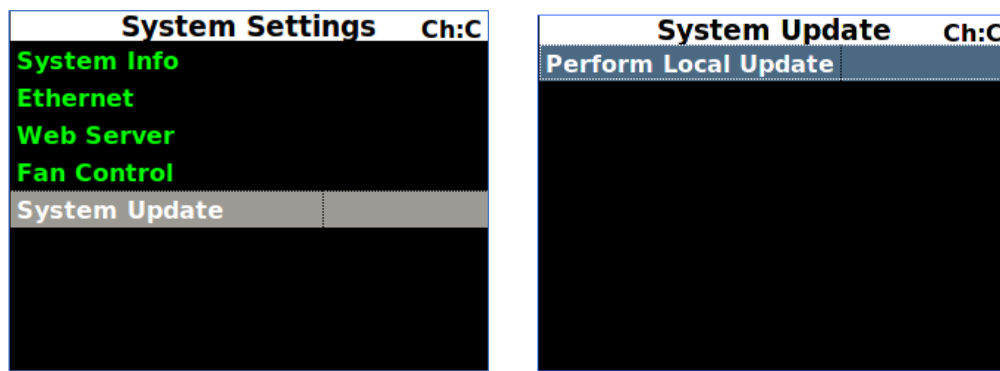

Figure 178: System Update, Perform Local Update Selection
3. Access the System Update screen, as shown in Figure 178. Press the Enter key.